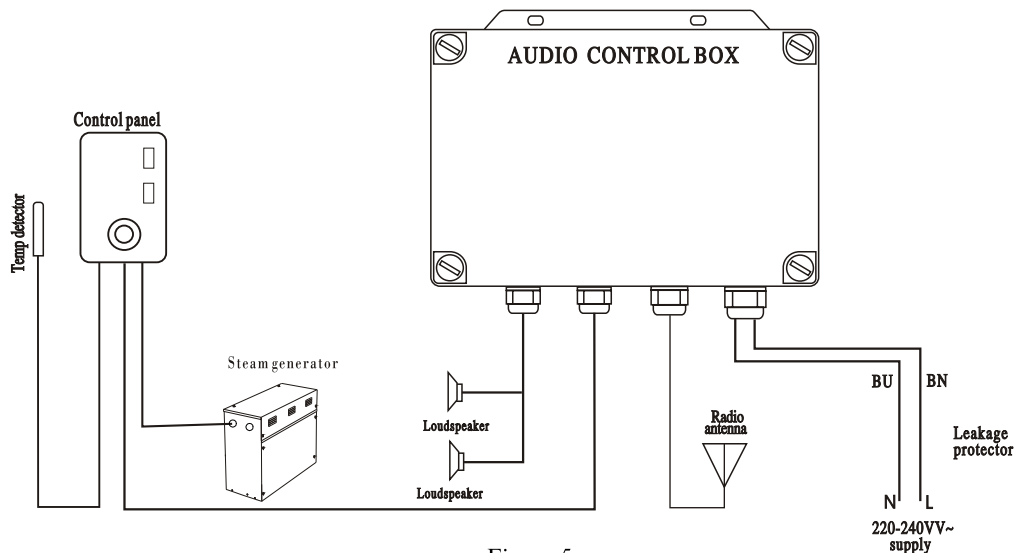

Figure 5
5. Connect the power cord of the audio control box to the power supply (Figure 5), and confirm the requirements on power supply indicated on the audio control box prior to switching on the power supply.